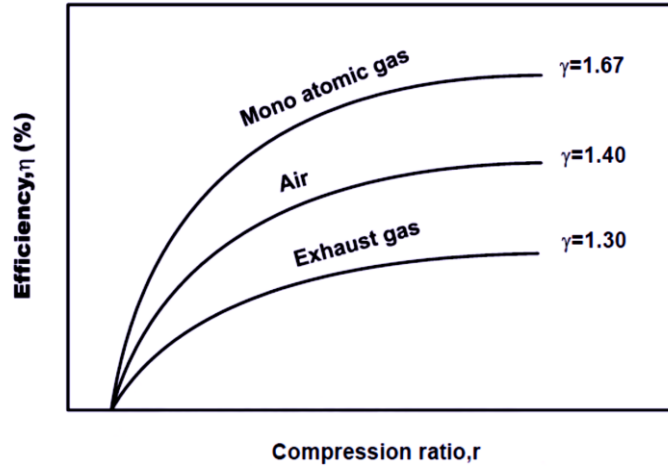

Fig. 1.12 Variation of Otto cycle efficiency with compression ratio
- Fig. 1.12 shows the variation of air standard efficiency of Otto cycle with compression ratio.